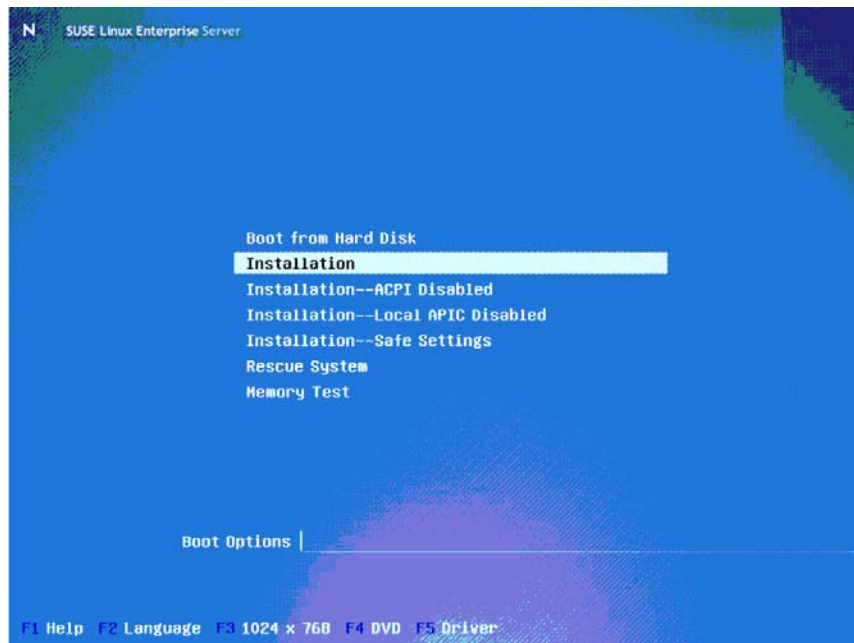

Figure 5-39 SUSE Enterprise Linux Server 10 installer start-up window
1. Boot the server from the SUSE Enterprise Linux 10 SP1 Installation CD/DVD, or ISO file. See Figure 5-39.